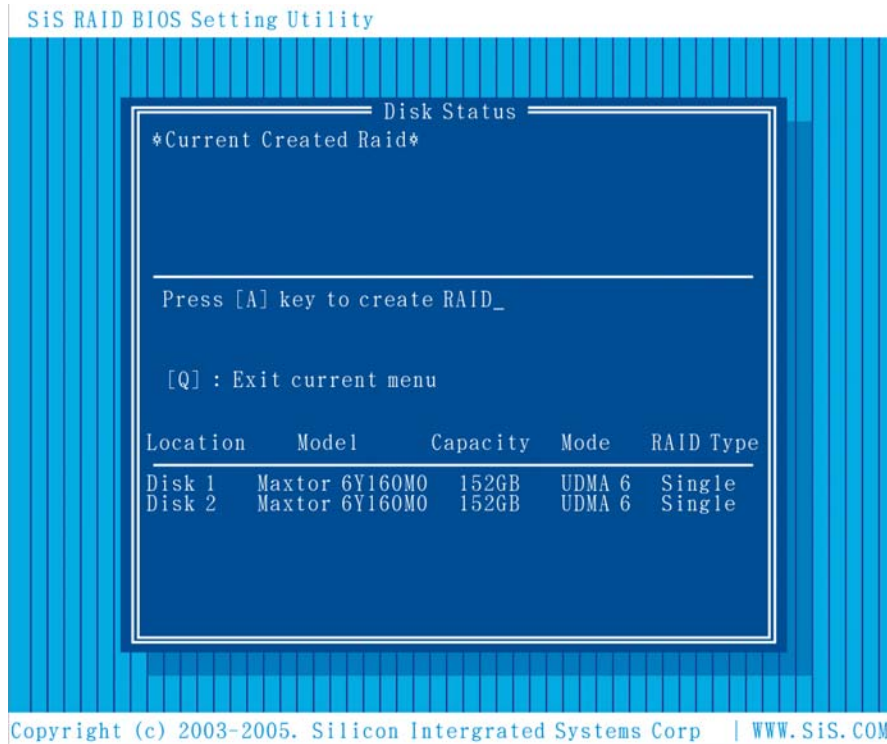

Figure 8-3: SiS RAID Setup Utility
Step 5: The screen in **Figure 8-3** appears.